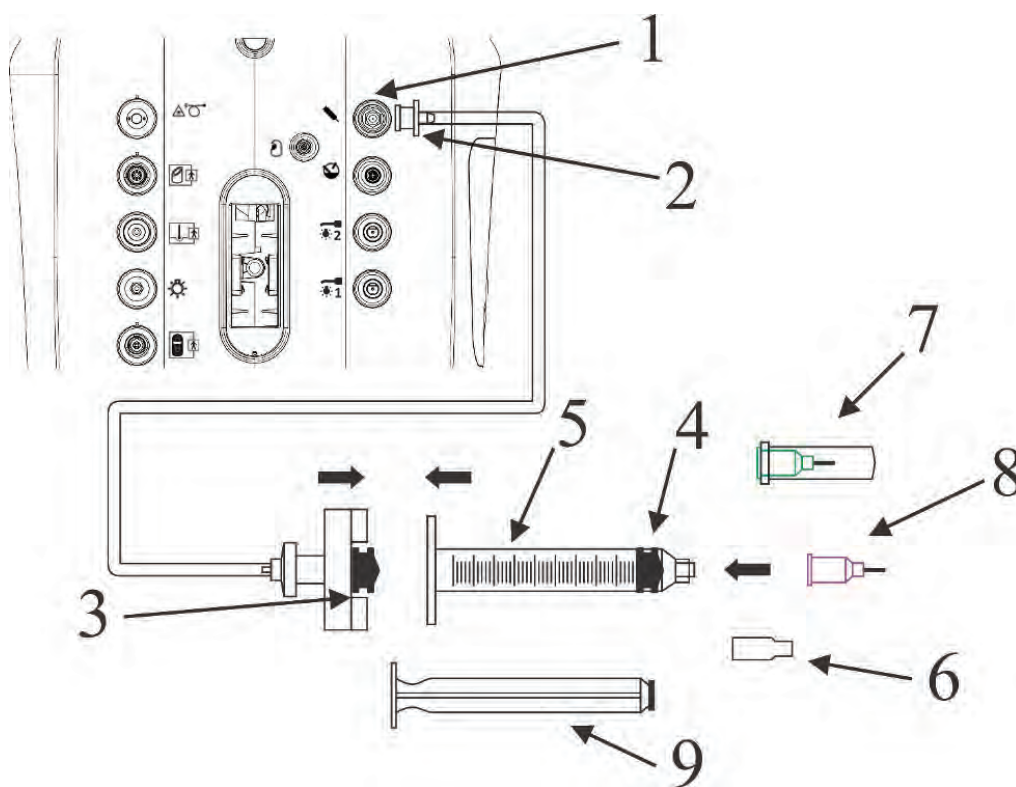

Figure 4.32. **Viscous Fluid Extraction Setup.**
5. Connect the syringe coupler of the Viscous Fluid tubing to the empty syringe. Twist the coupler to lock it securely to the syringe. (Refer to Figure 4.32.)
7. Remove the cannula cover (8) before use.